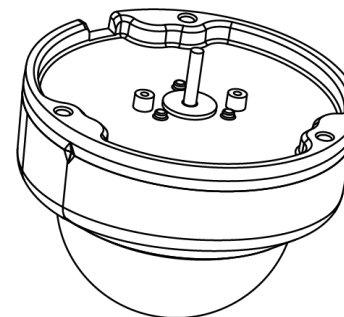

Figure 3
- Through the cable entry on top of the camera (Figure 3).